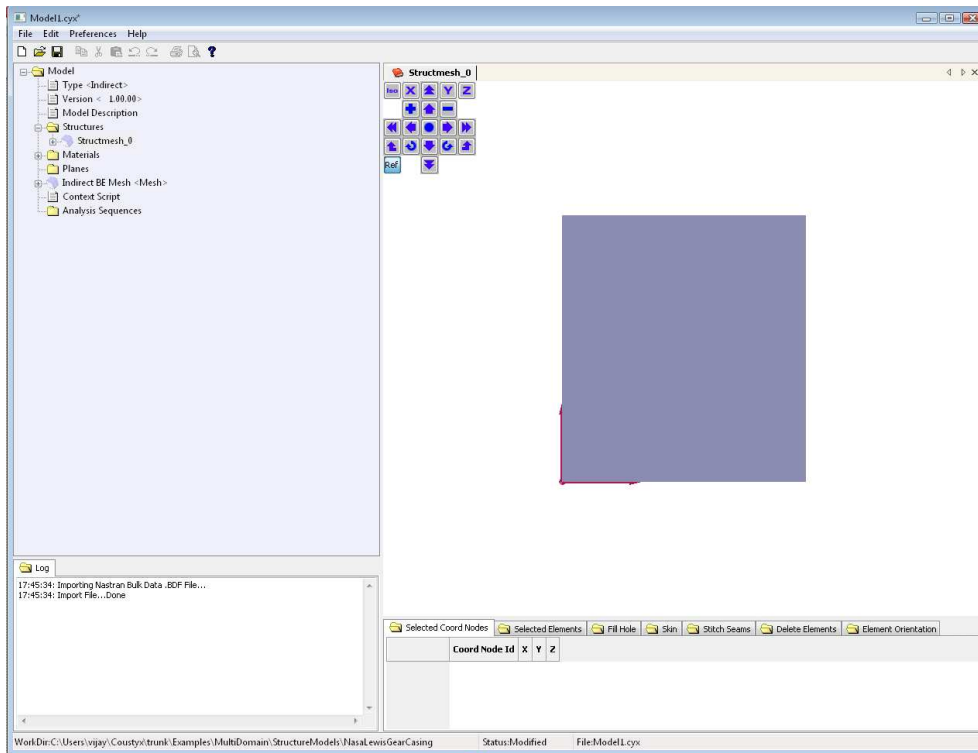

Figure 9.31: Structure mesh opened in Coustyx GUI.
- Right-click on **Structmesh_0** or $\langle Struct\ Mesh\ Name \rangle$ and select: **Open** to view the structure mesh in the GUI. The structure mesh will appear as shown in Figure 9.31.